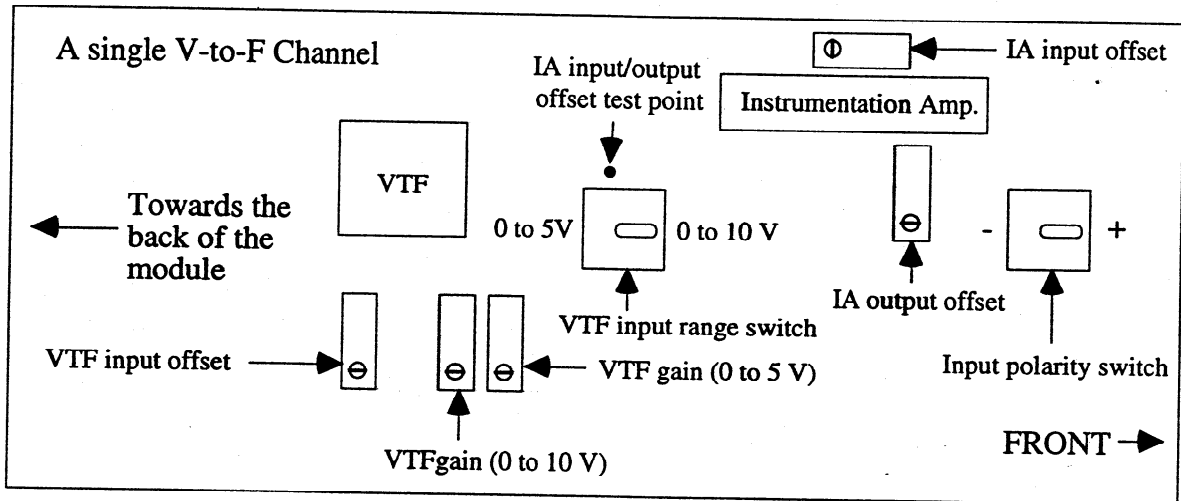

Figure 1. The position of the 25 turn calibration potentiometers. One channel is shown.
IA input offset	An internal 25 turn potentiometer (Figure 1) can be used to adjust the input offset of the instrumentation amplifier.
IA output offset	An internal 25 turn potentiometer (Figure 1) can be used to adjust the output offset of the instrumentation amplifier. This potentiometer is not always supplied. It is only needed for large gain applications.
An internal 25 turn potentiometer (Figure 1) can be used to adjust the input offset within a few Hz of the expected frequency.
Two internal 25 turn potentiometers (Figure 1) can be used independently to adjust the voltage-to-frequency gain of the 0 to 10 V (default) and 0 to 5 V ranges. The adjustment of each range effects each other somewhat. Therefore, the module comes with the 0 to 10 V range adjusted fully and 0 to 5 V range adjusted partially unless requested otherwise. If the unit is switched to 0 to 5 V range it must be recalibrated if accurate measurements need to be made. This adjustment can be carried out at NOVA.
The input polarity for each channel is adjusted by an internal switch (the nearest switches to the front panel at each channel) (**Figure 1**). The switches are labelled for channels one, two, three, and four are labeled S1, S1A, S1B, and S1C respectively. With the switch set toward the front panel the input voltage should be positive. Default setting is for positive input unless specifically requested otherwise.
The instrumentation amplifier (IA) offset potentiometers (**Figure 1**) must be adjusted for proper performance of the N101VTF. There are two offset potentiometers for each channel. One potentiometer controls the input offset (R11, R11A, R11B and R11C) while the other controls the output offset (R10, R10A, R10B and R10C). (Please note: A, B, C stand for channels 2, 3, 4, respectively.) The input offset should be adjusted at low voltage gains, such as x1, and the output offset should be adjusted when high voltage gains are used. Since the maximum gain is x10 the adjustment of the output offset is not significant and this potentiometer may be omitted if not specifically requested.
The voltage-to-frequency (VTF) converter offset potentiometer (**Figure 1**) must be adjusted for proper performance of the N101VTF. There is only one offset potentiometer (R13, R13A, R13B and R13C) for each channel. The input offset is normally adjusted for x1 gain setting unless specifically requested otherwise.
The voltage range of the input can be either 0 to 10 volts (default) or 0 to 5 volts. The range is set by an internal switch labeled S2 for channel one (Figure 1). For channel two, three and four, the switch is labeled S2A, S2B and S2C, respectively. For both voltage ranges the output frequency will be 1 MHz at full scale (10 V or 5 V). The maximum input voltage is the range voltage divided by the voltage gain. For a gain of x10 and the input range set to 10 V the maximum input voltage would be 1 V. For overrange input voltages the output will remain at the maximum output frequency (1 MHz).